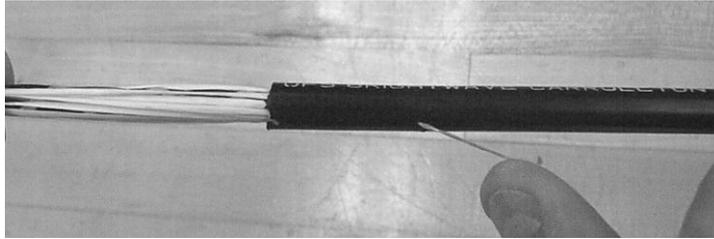

Figure 26 – Pull the ripcord to open the outer cable jacket.
5.13 Locate and pull each ripcord to the ring cut (Figure 26). Sometimes a small starter slit is needed to start the ripcord. If desired, wrap the ripcord around a pair of pliers to grip the ripcord. Remove the outer cable jacket.